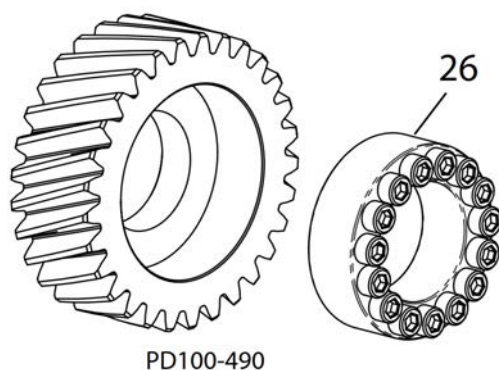
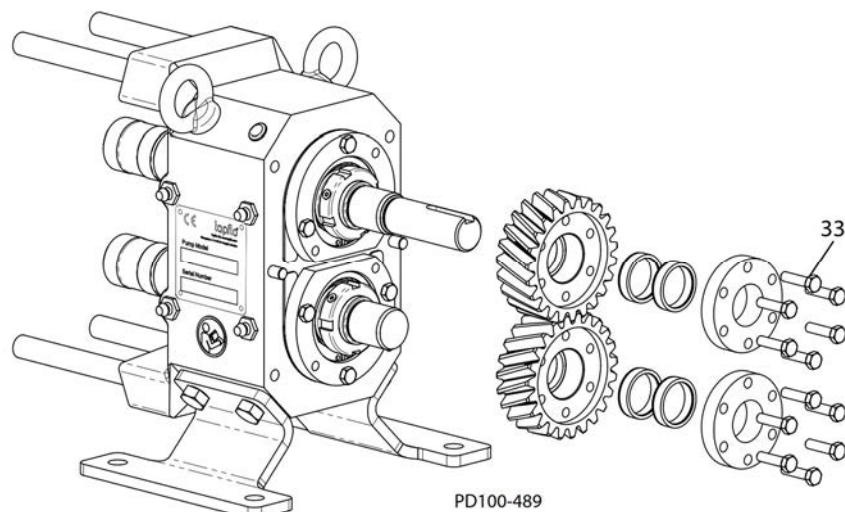

Fig. 38: Locking Assembly
Fig. 39: Remove Gear and Locking Assembly
1. Loosen the clamp ring screws (Figure 39, item 24) or locking screws in the locking assembly (Figure 38, item 26) to release the gear from the shaft.